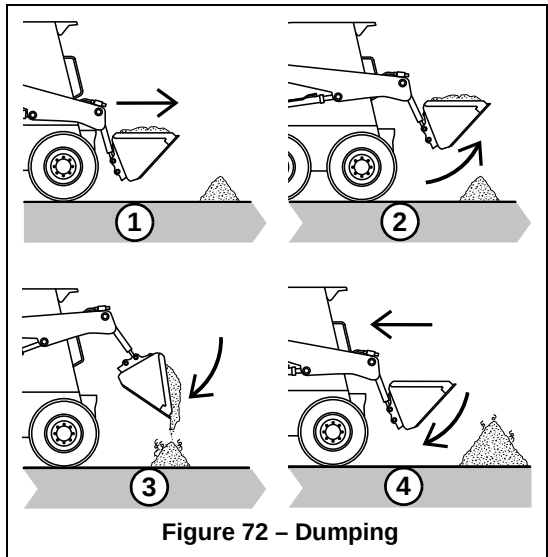

Figure 72 – Dumping
1. (Figure 72) Approach the pile with the bucket as low as possible.